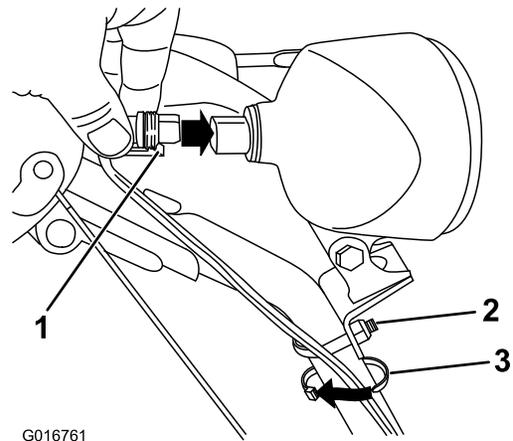

Figure 17
1. Insert the wire connector on the loose end of the wire straight into the back of the headlight until it is securely in place (Figure 17).
Note: Ensure that the plastic clip on the wire connector is on the bottom (Figure 17).
2. Secure a cable tie (from the loose parts bag) around the wire and the handle about 2.5 cm (1 inch) below the U-bolt (Figure 17).